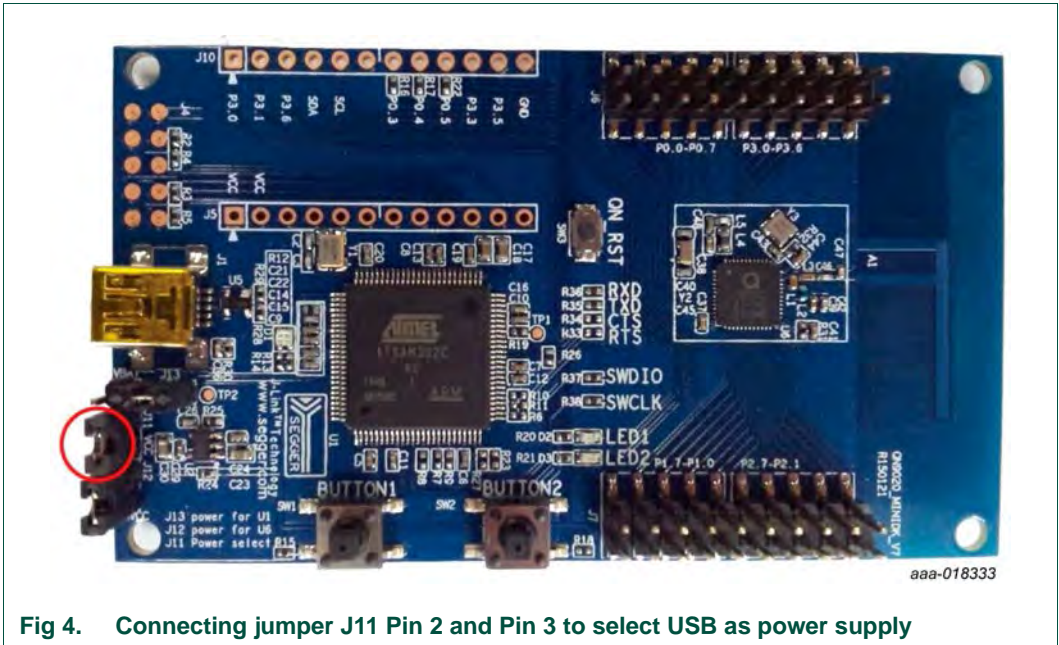

Fig 4. Connecting jumper J11 Pin 2 and Pin 3 to select USB as power supply
- 2. Battery-power mode: The CR2032 supplies power to QN9020 and optional sensor connector when it is in battery-power mode. The JLink OB still uses the LDO as power supply via USB cable. When using USB interface as a power supply, connect the jumper J11 pin 2 and pin 3; see Figure 4.